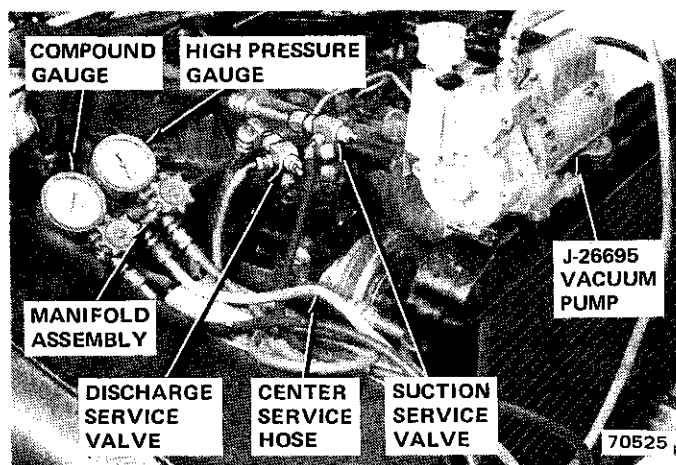

Fig. 3E-6 Evacuating System with J-26695 Vacuum Pump
(1) Connect Pressure Gauge and Manifold Assembly, tool J-23575.
(2) Discharge system.
(3) Connect center service hose to inlet fitting of vacuum pump (fig. 3E-6).